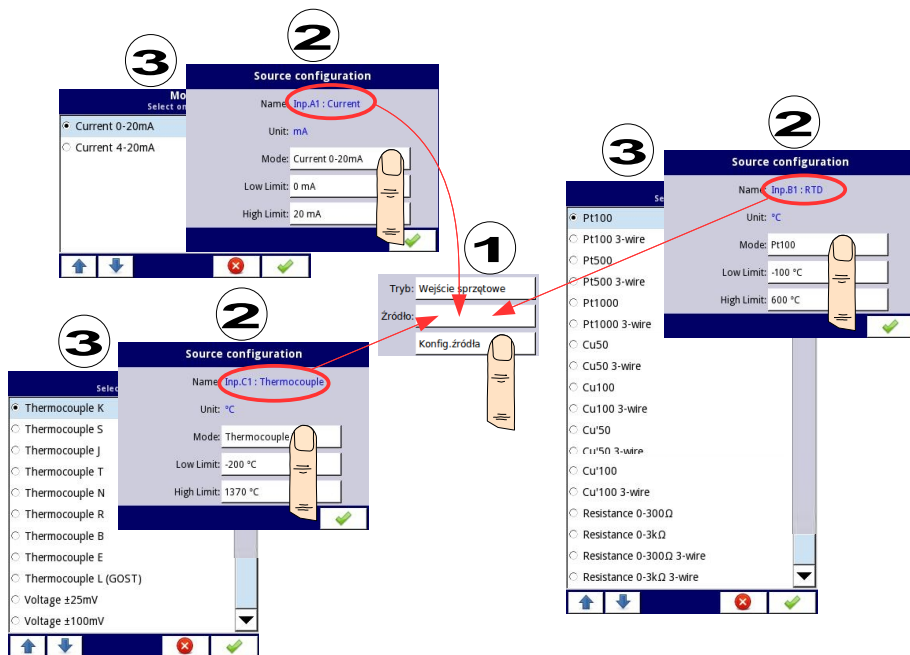

Fig. 7.37. Change source configuration for different types of modules
- change the type of reading of the input signal - depending on the module, e.g. a thermocouple module can read the temperature and voltage (see Fig. 7.37),
The following steps change the **Source configuration** for the sample of 3 modules shown in Fig. 7.37: